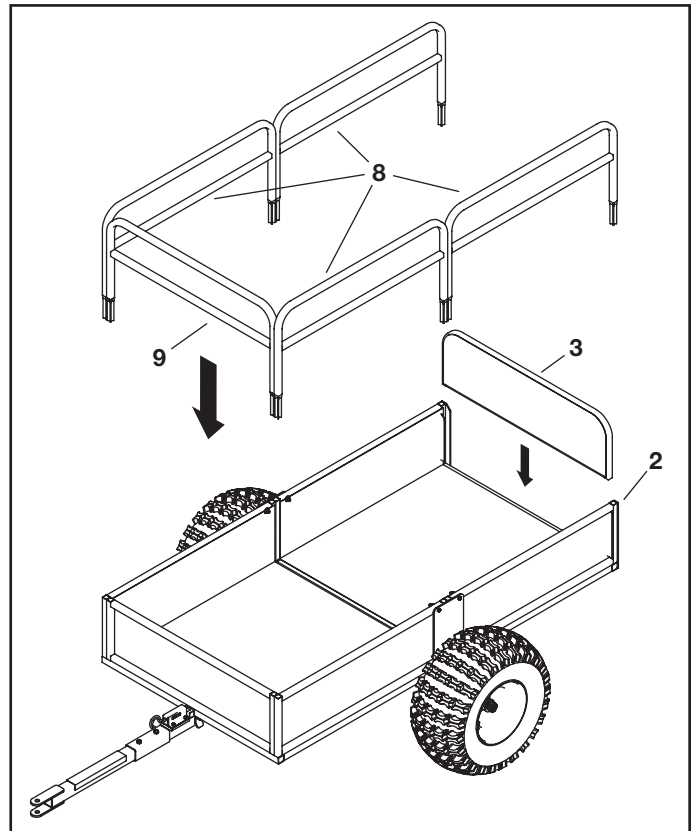

FIGURE 6
STEP 6: (SEE FIGURE 6)
- Slide the removable tailgate (3) into the channels on the rear trailer frame (2). Slide the four side containment racks (8) and the one front containment rack (9) into the corresponding tubes on the trailer frame assembly.